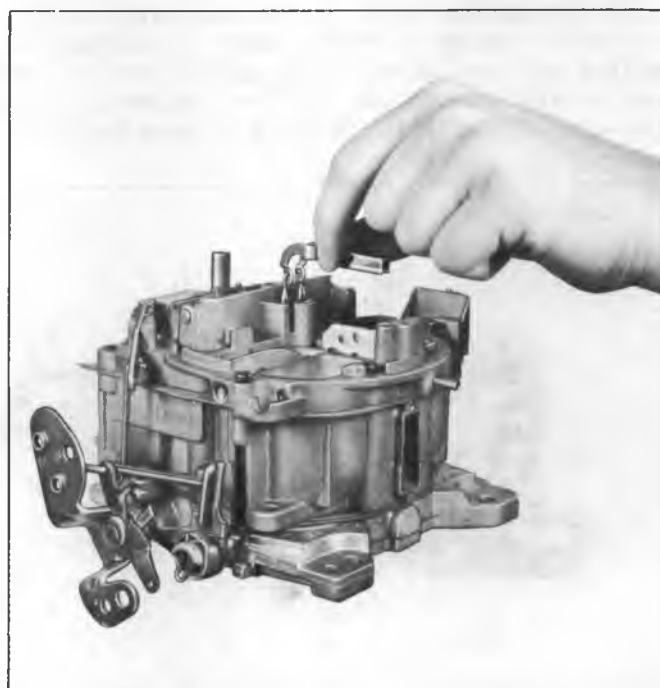

Fig. Q8--Installing Secondary Metering Rods
6. Install secondary metering rod and hanger. Rod should be positioned with upper ends through hanger holes and towards each other. (Figure Q8). Install hanger retainer screw and tighten securely.